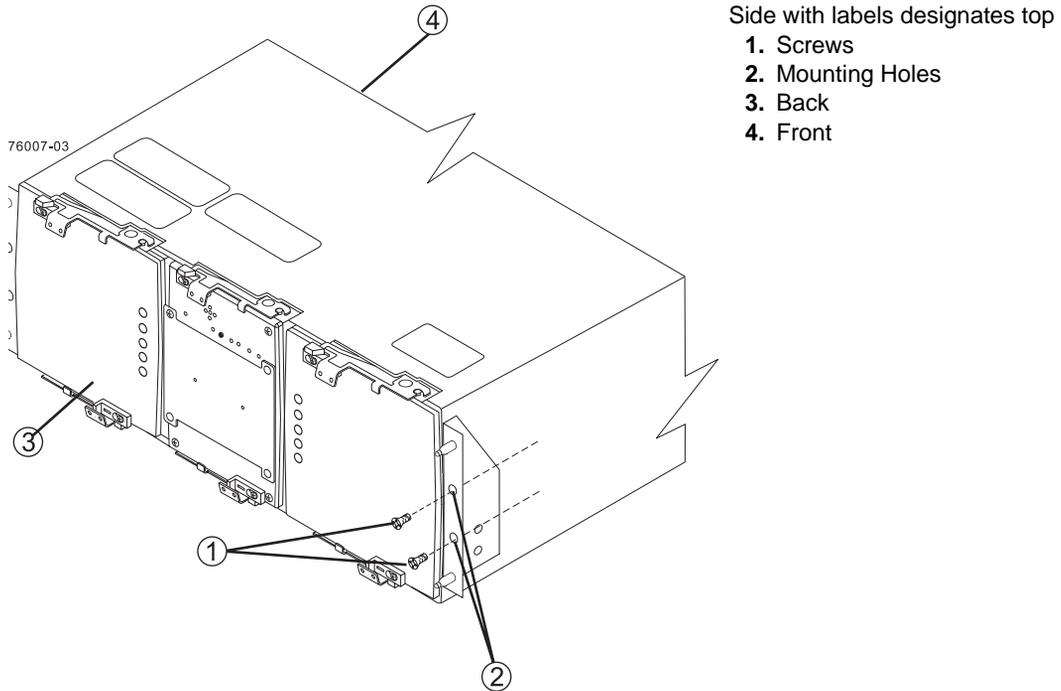

Figure 7 Securing the Control Module to the Cabinet
- 4 With the help of two other people, slide the back of the control module onto the support rails, and make sure that the top mounting holes on the command module align with the support rail holes (Figure 7).